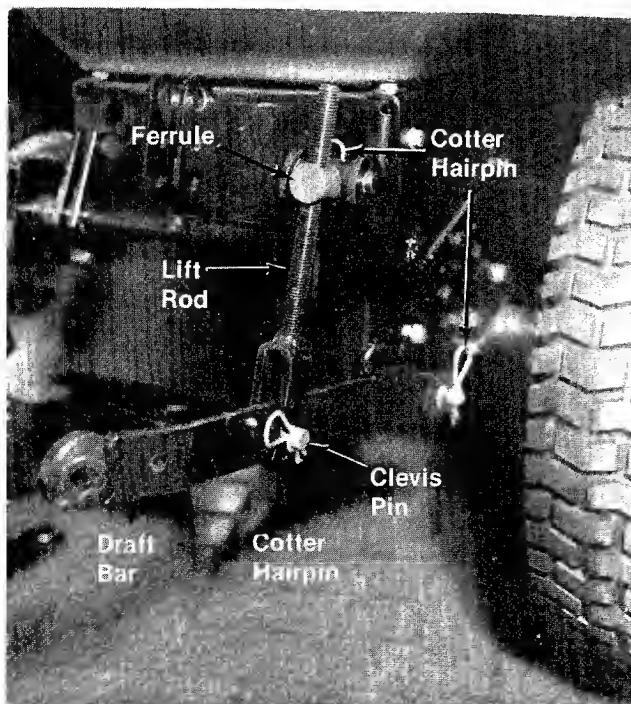

FIGURE 23
1. Attach the ferrule to the upper arms using the cotter hairpins. See figure 23.
3. Attach the right draft bar to the side of the frame with a cotter hairpin. See figures 23 and 24 to determine which draft bar goes on the right side.